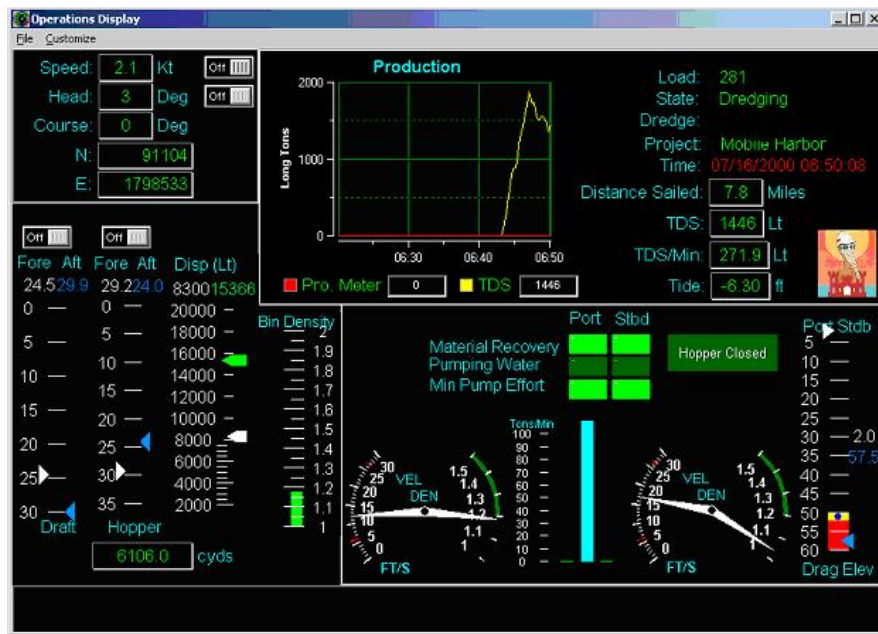

Figure 3.2 Onboard Dredge Display.
2. In the control center window, Click ***Show Display***. The Onboard display will then appear as shown in Figure 3.2.